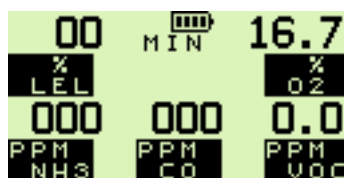

Fig. 2.14 Minimum Gas Values
- 2) Press the green (RH) button again to view the minimum gas values stored in the instrument. Note: This screen is only displayed when an Oxygen sensor is fitted in the instrument.
The following example, Fig. 2.14, illustrates the minimum gas values stored in a five gas instrument: LEL, Oxygen (O₂), Volatile Organic Compounds (VOC), Carbon Monoxide (CO) and Ammonia.